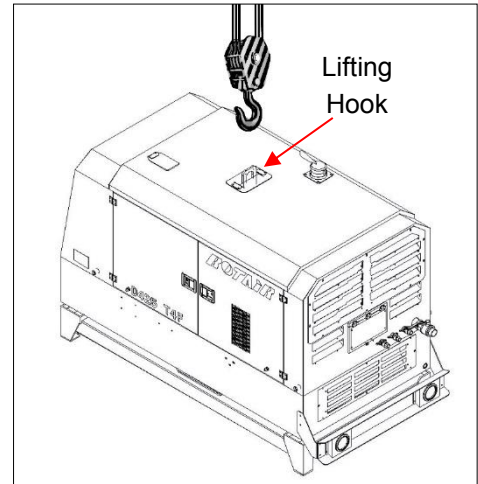

Figure 6.2-1 Lifting system of the
- 3) Attach the hook of the lifting means to the hooking point of the compressor (Figure 6.2-1).